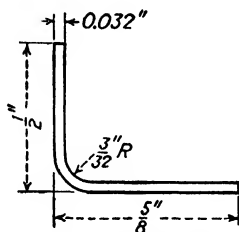

Fig. 318.—Angle of bend 90°.
82. Calculate the bend allowance for the fitting shown in Fig. 318.
83. Find the over-all or developed length of the fitting in Fig. 318.